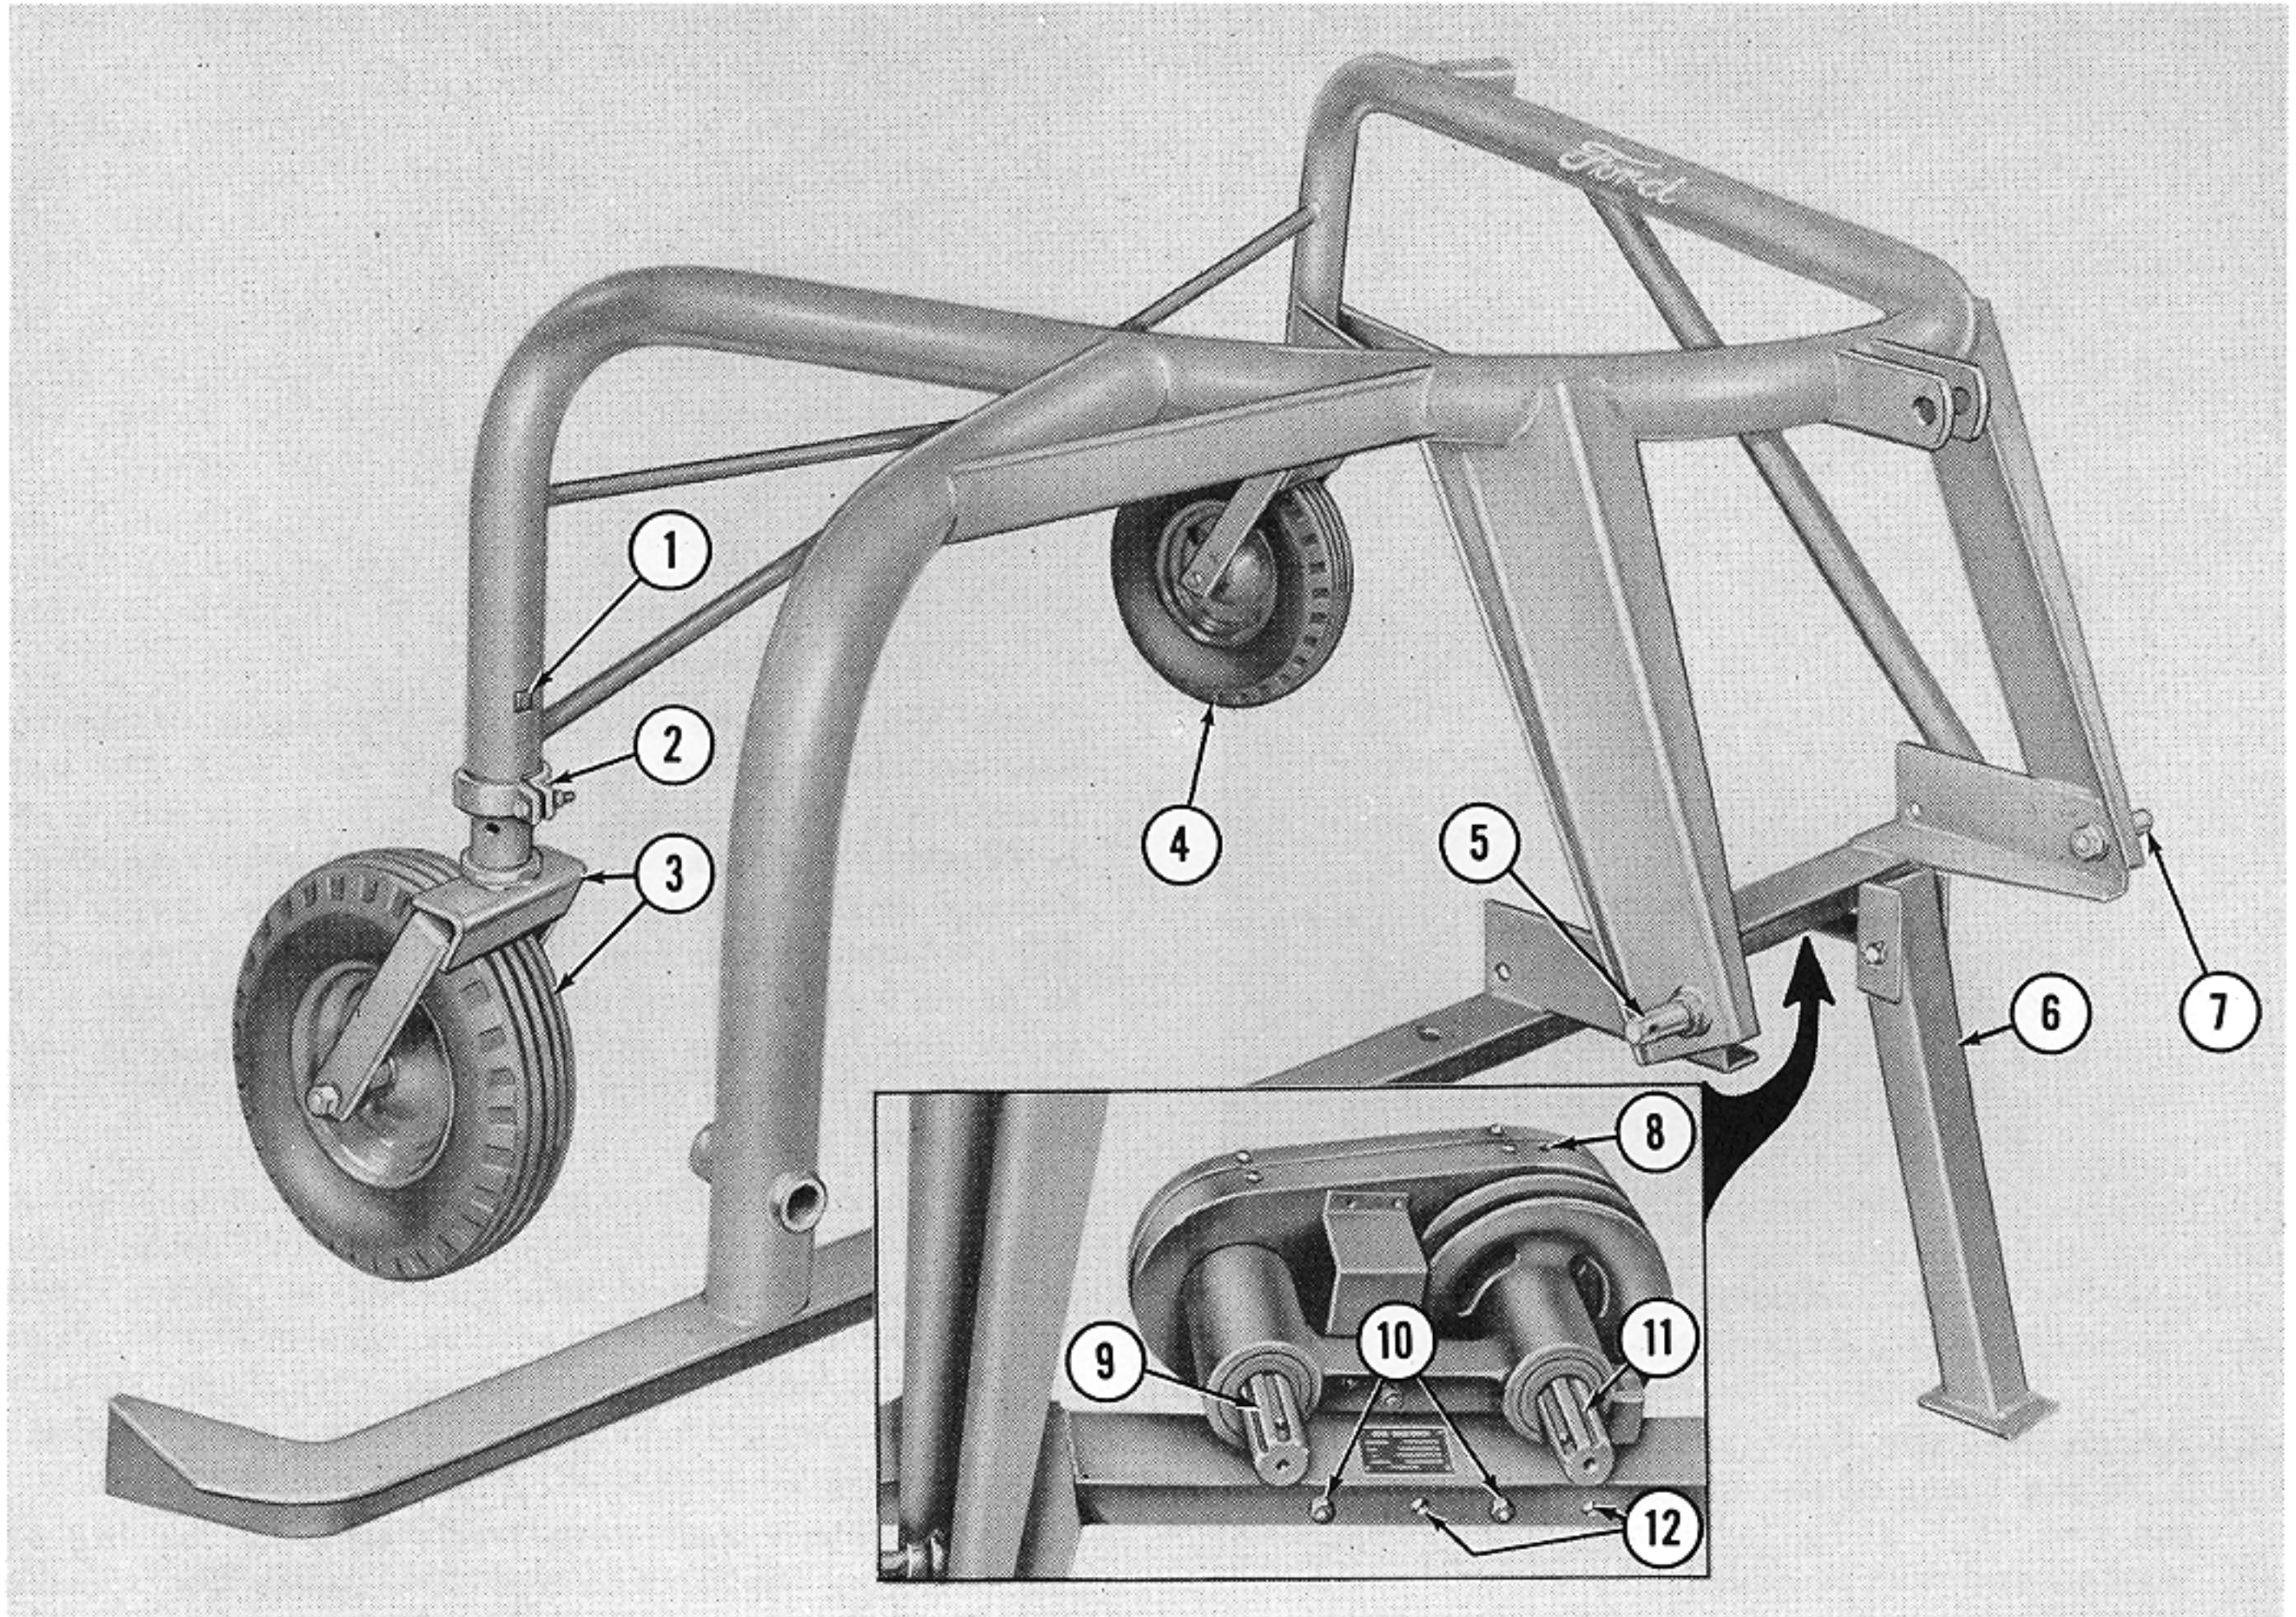
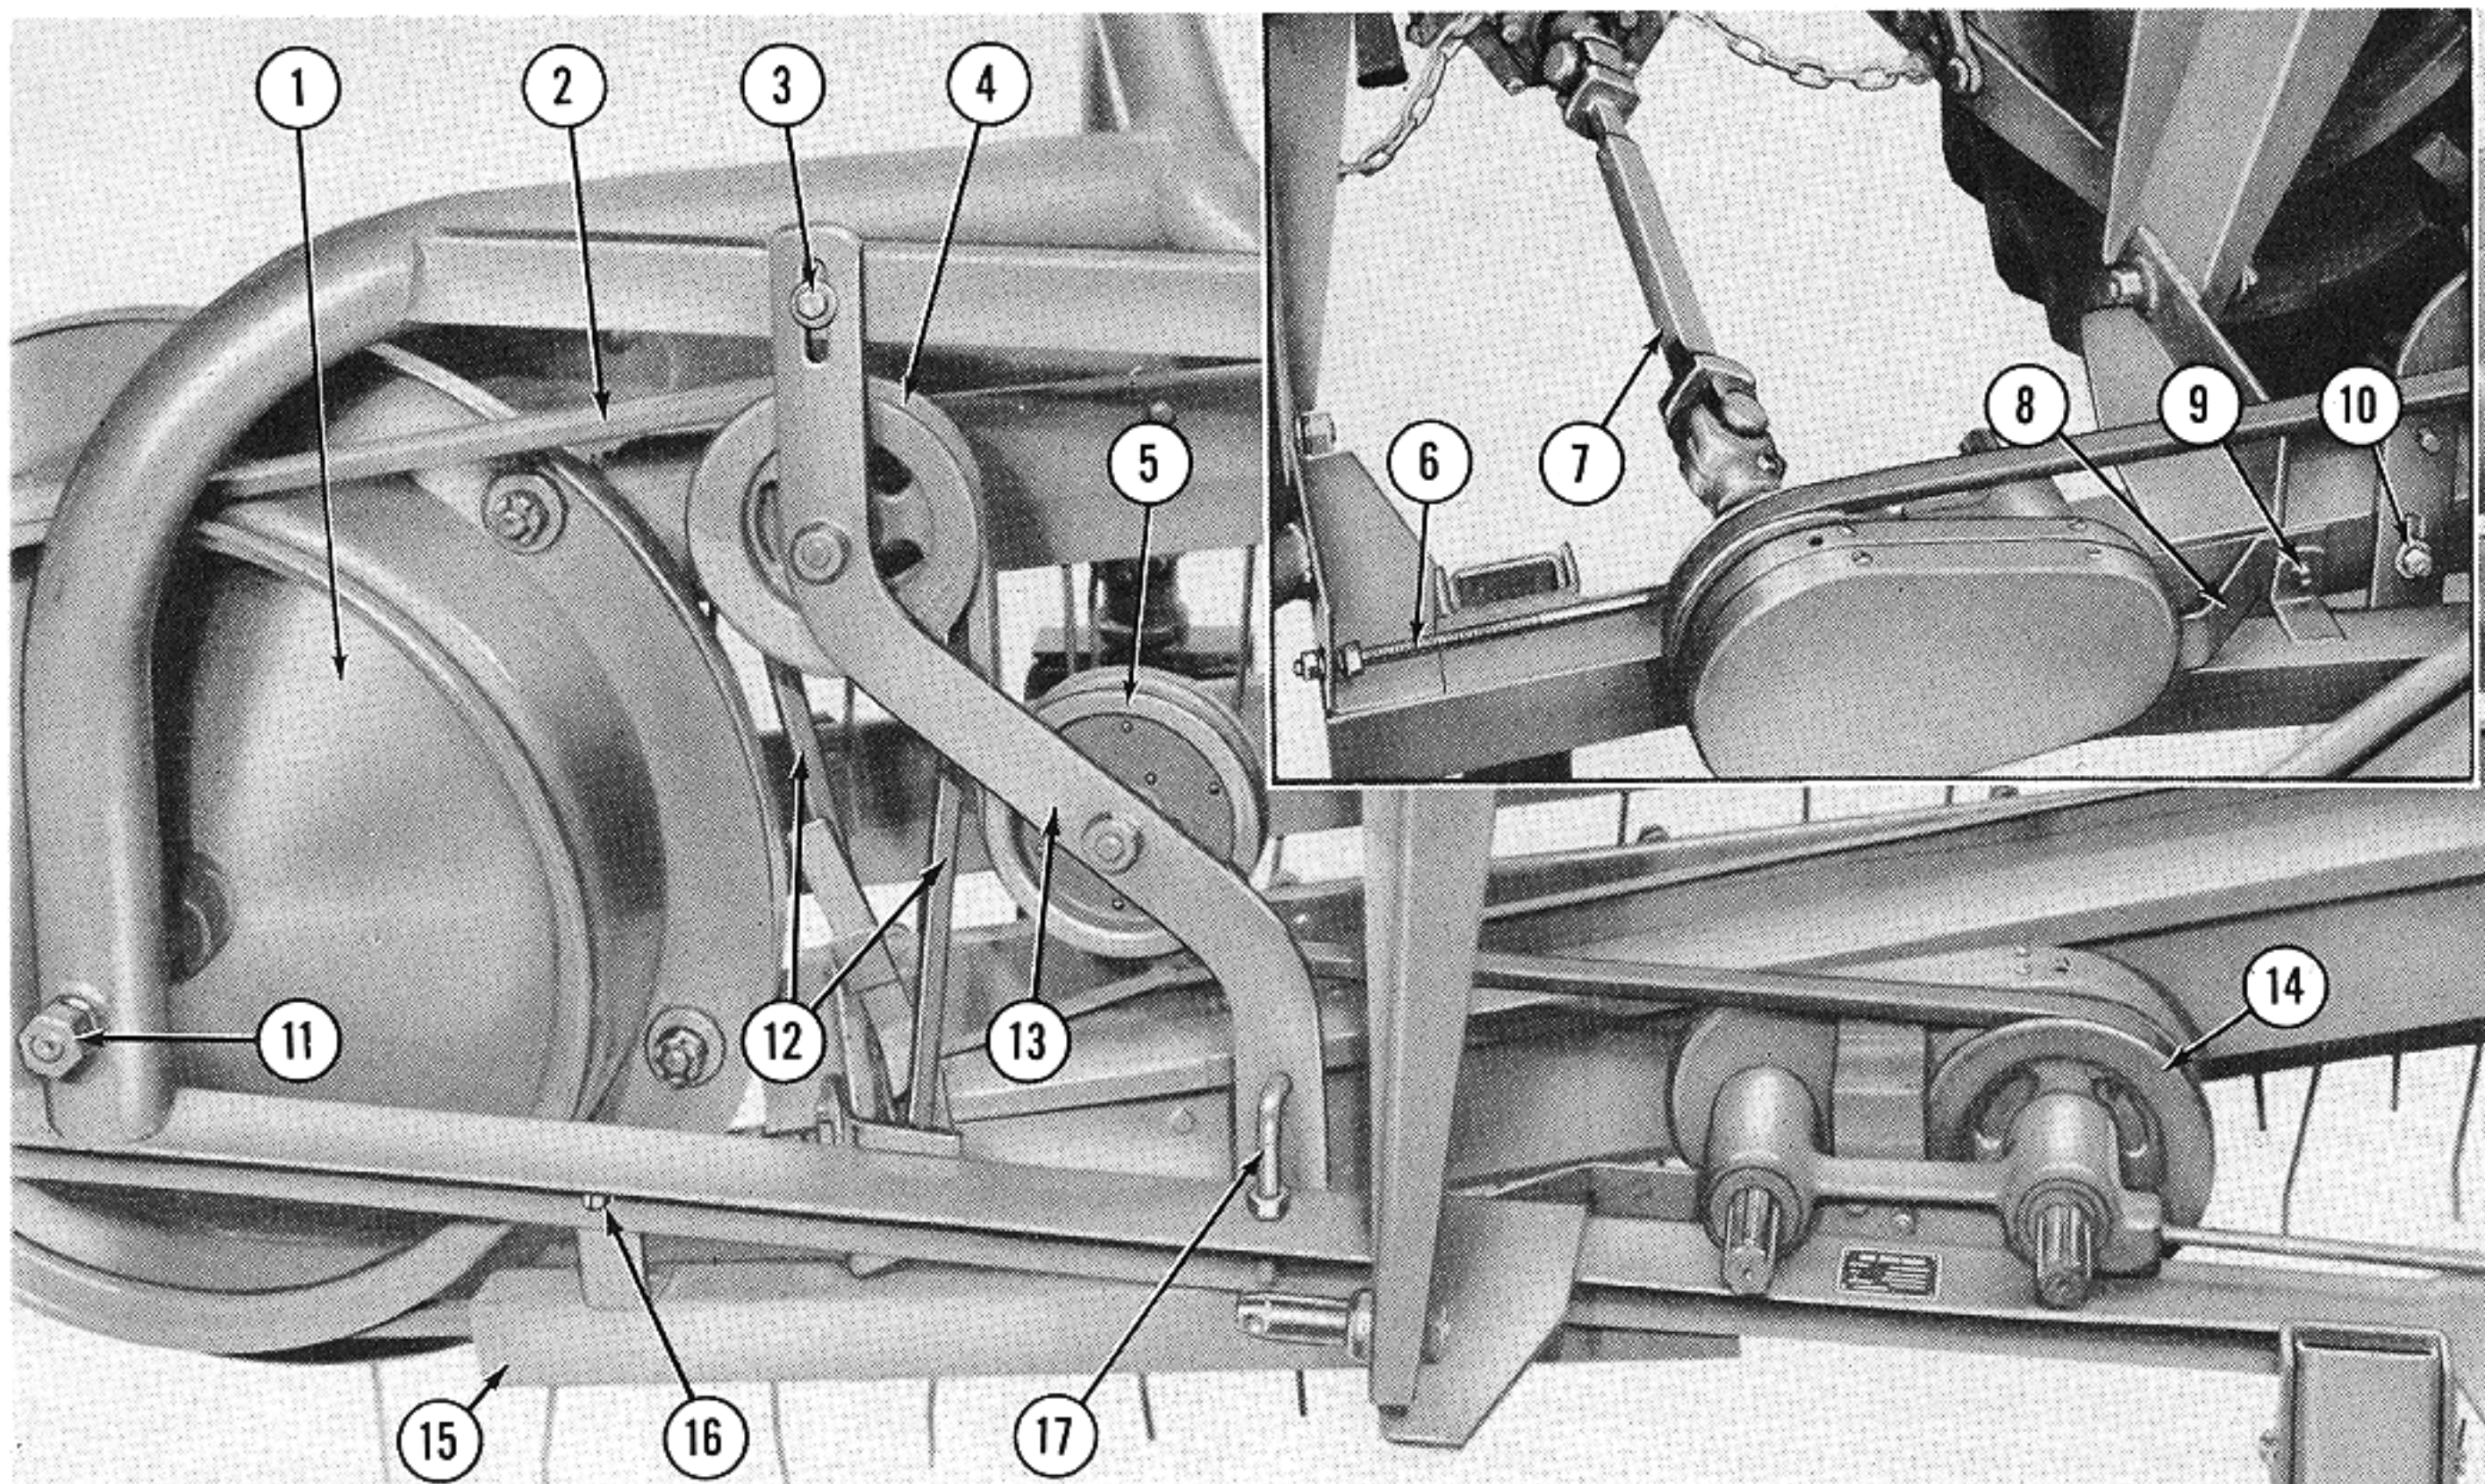

Figure 2
Figure 7
2. Attach the jack stand (6), Figure 2, to the front
3. Install the hitch pins (5) and (7), Figure 2, and secure with the lockwashers and nuts provided. Tighten securely.
4. Install the right gauge wheel (3), Figure 2, as follows:
- b. Place a square head bolt (1), Figure 2, through the main frame and the top hole in the gauge wheel spindle and secure with a lockwasher and nut.
- c. Install a $\frac{7}{16}$ " x 2" bolt through the ends of the gauge wheel collar (2), Figure 2, and secure with the lockwasher and nut provided.
5. Attach the left gauge wheel (4), Figure 2, to the main frame in the same manner described above and inflate the two gauge wheel tires to 30 pounds pressure.
6. Attach the main drive assembly, see insert Figure 2, to the front of the main frame as shown with the two $\frac{7}{16}$ " x $1\frac{5}{8}$ " carriage bolts (10), lockwashers and nuts provided.
NOTE: Extra mounting holes (12), Figure 2, are provided to remove slack when the drive belt becomes stretched.
- a. Place the large V-belt (2), Figure 7, on the right reel (1) and insert the reel spindle through the main frame as shown at (11). Secure with the lockwasher and large nut provided.
14. Attach the double idler sheave (4), Figure 7, and idler sheave (5) to the idler bracket (13) with the bolt and two drive pins provided.
15. Install the idler bracket (13), Figure 7, on the main frame with the bolts (3) and (10), Figure 7, flat washers, lockwashers and nuts. Do not tighten at this time.
16. Position the stripper drive belt (12), Figure 7, around the small half of the double idler (4). Raise the bracket (13) until the belt (12) is taut and tighten the bolts (3) and (10) securely. Attach the adjusting link bolt (17), Figure 7, between the idler bracket and the main frame as shown.
17. Position the reel drive belt (2), Figure 7, around the reel (1) over the large half of the double idler (4), under the idler (5) and around the drive sheave (14) as shown.
18. Loosen the main drive assembly mounting bolts (10), Figure 2, and install the drive assembly adjusting bolt (6), Figure 7, as shown. Tighten the adjusting bolt until the belt (2) is taut and secure with the jam nut provided. Tighten the bolts (10), Figure 2, securely.
19. Bolt the small belt shield (8), Figure 7, and the left end of the long belt shield (15) to the main frame with the bolt (9), lockwasher and nut. Bolt the right end of the shield (15) to the frame with the bolt (16), lockwasher and nut.
5. Swing the stand (6), Figure 2, forward into an inverted position and insert in the slots provided.
NOTE: The chart on page 7 is based on a recommended reel speed of 72.7 rpm, and a maximum reel speed of 101 rpm. The shaft (9), Figure 2, is reduced and (10) is direct. Do not operate shaft (9) at a speed exceeding 654 rpm, or shaft (10) at a speed exceeding 327 rpm.
1. Drop the stand (6), Figure 2, into position as shown.
Stripper Belt: Proper tension on the stripper drive belt (12), Figure 7, can be obtained by repositioning the double sheave (4) and the idler support (13). This is done by loosening the bolts (3) and (10), Figure 7, adjusting the support and retightening the bolts.
Main Drive Belt: Adjust tension on the main drive belt (2), Figure 7, by repositioning the main drive housing. The bolts holding the main drive housing to frame must be loosened while this adjustment is being made. The push bolt (6), Figure 7, and the main drive housing attaching bolts govern the position of the main drive housing.
NOTE: Be sure the belt guards (8) and (15), Figure 7, are free of the main drive belt and stripper drive belt.